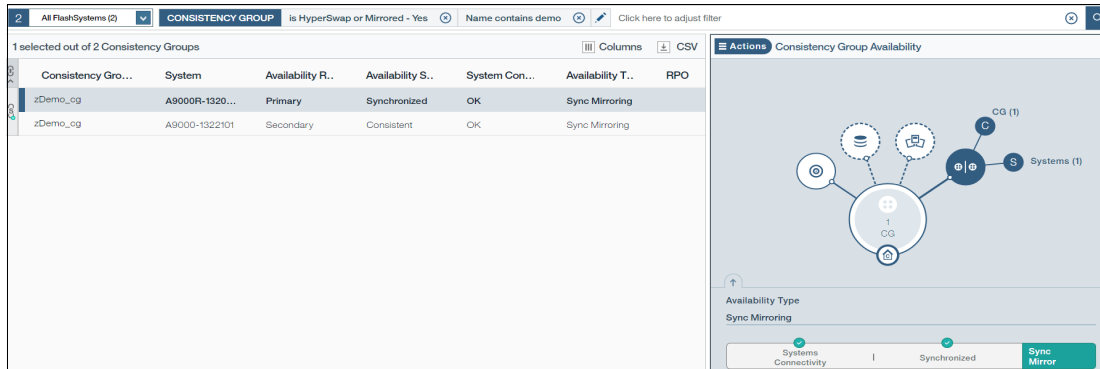

Figure 4-58 The production system has the source role again
3. The local site now has the primary role again, and the remote site has the secondary role, as shown in Figure 4-58.